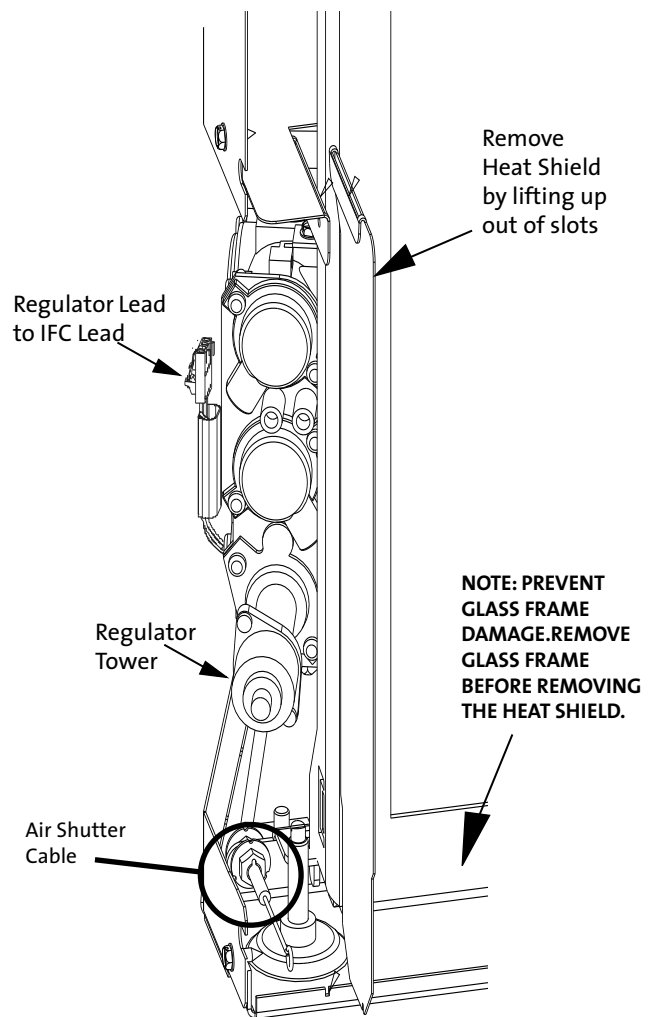

Figure 7.9. Replace the Regulator Tower.
8. **CHANGE THE VARIABLE REGULATOR TOWER** on the gas control valve. See fig. 7.9.
- Push/Pull each side air shutter cable to confirm that both shutters move freely through the full range of travel. See figs. 7.9, and 8.1, pg. 29.